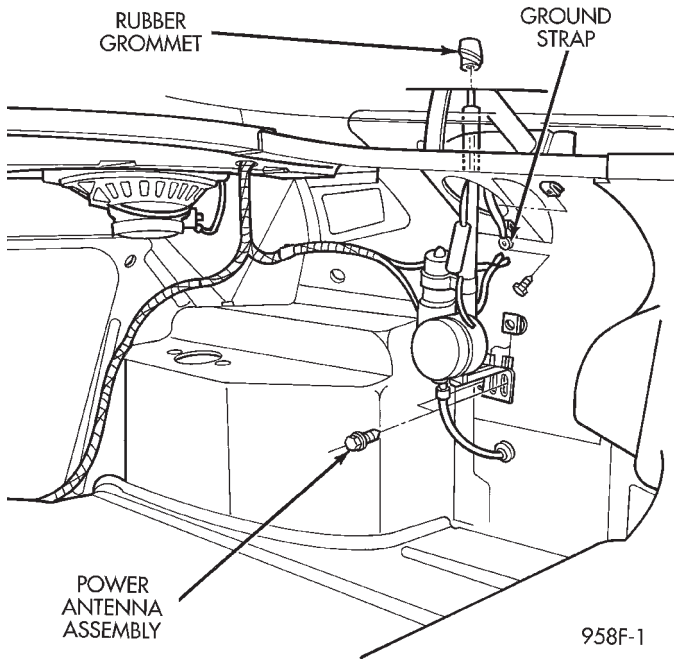

Fig. 2 Power Antenna Assembly
- (1) To extend antenna, using jumper wires, attach one end to a battery positive source and the other to the red and green wire terminals for up direction. Connect the second lead to a good ground or to the antenna mounting bracket (Fig. 2).
- (2) To retract antenna attach the battery positive source to the red wire terminal for the down direction. Connect the second lead to a good ground or to the antenna mounting bracket.
- (3) If the motor will not operate, replace the antenna assembly.
- (4) If the motor runs freely and the antenna does not extend or retract, the mast or drive assembly is at fault. Remove the mast and verify that all the drive teeth are intact. If not replace mast.
- (5) If the mast jumps or travel rate is slow during operation or the motor labors.
- (6) If mast fails to extend or retract completely, or motor continued to operate after full extension or retraction of mast. Check for broken teeth on the mast drive rod or bent mast.
- (7) If the mast checks good, the antenna assembly should be replaced.
- (8) Upon establishing that the fault is in the antenna assembly, it may be traced to one or more of the following conditions: